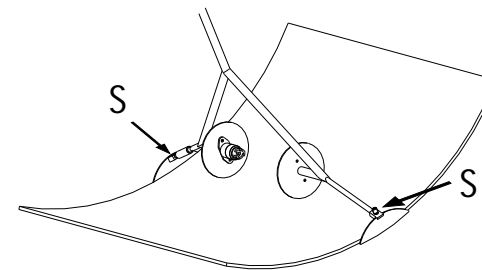

FIG.3
7. Tighten the plastic grub screws "S" that hold the shade in place without overtightening them. **FIG.3**